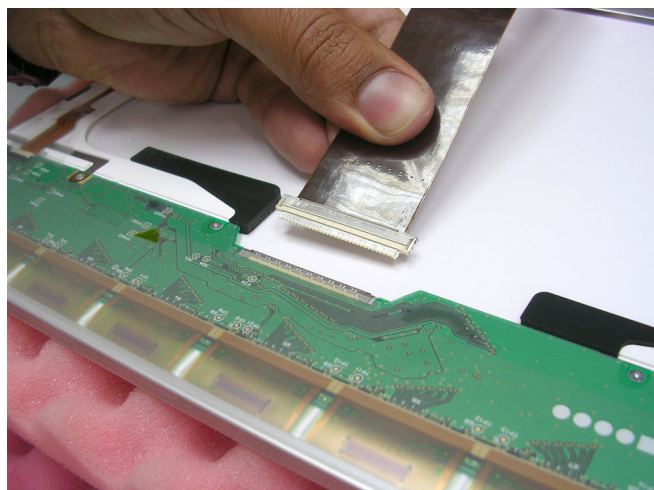

Figure 8-70 Connecting the Flex Cable to the LCD Rear Panel
- 2) Connect the new flex cable to LCD rear panel connector, as shown in Figure 8-70.